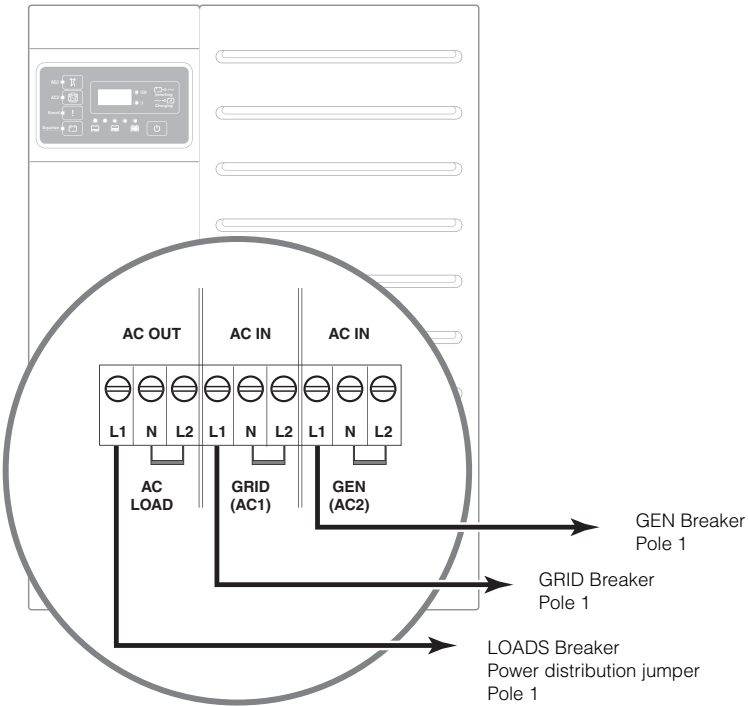

Figure 3-34 Inverter/Charger Three-Phase AC Wiring
- 1. Connect the AC Wiring in the master inverter/charger (INV1) terminal block. See Figure 3-34. Connect INV2 and INV3 the same way.